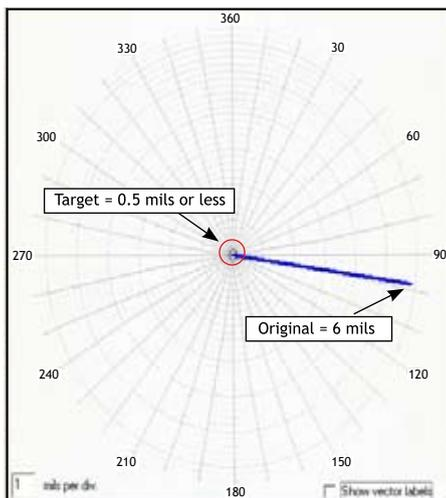

Figure 5 - Balance Job - Original Run Data with target vibration level
Rotors are usually balanced to a specified tolerance in units of unbalance such as ounce-inches or gram-millimeters or to a specific balance quality grade (G). Another option is to balance the rotor until the vibration resulting from the force is at an acceptable level. In other words, we want to reduce the magnitude of the original run vector (Figure 3) until we are within the tolerance or be as near to zero as possible. Figure 5 shows an example of a tolerance bull's-eye at .5 mils.